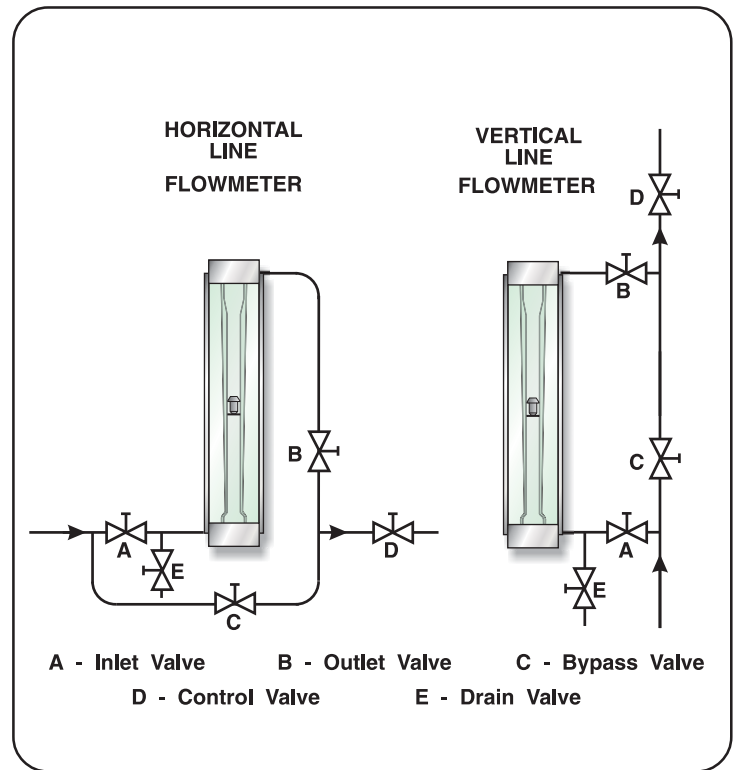

Figure 1 Typical Flowmeter Installation
Installation (See Figures 1 and 2)
- Installation of a bypass piping arrangement is recommended, see Figures 1 and 2 Typical Flowmeter Installations. Bypass piping permits the meter to be isolated from the flow for servicing and cleaning.